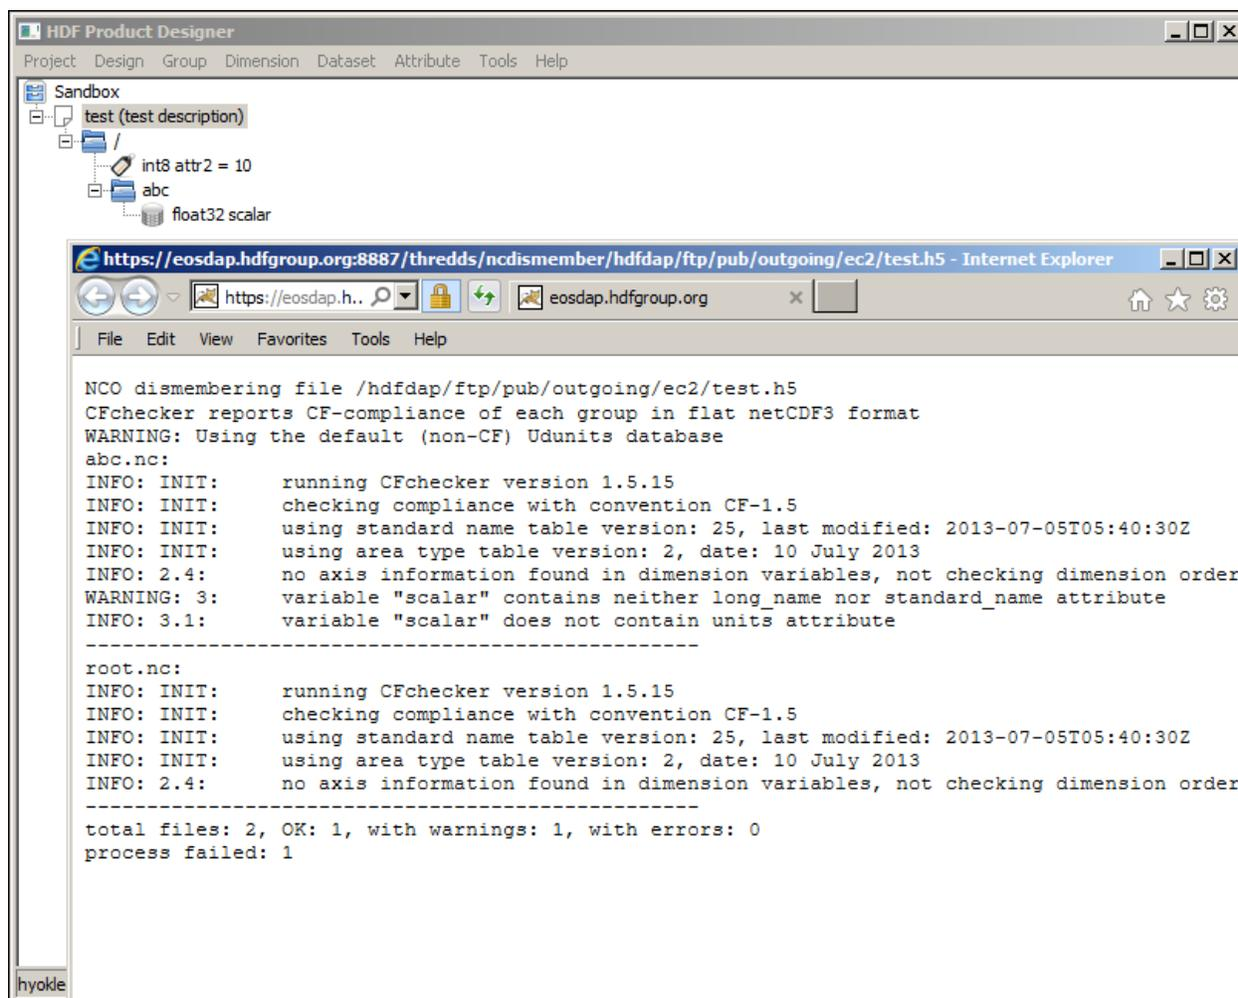

Fig. 5.26: CF compliance report from HPD Online. Note how the `test.h5` file is split into the `abc.nc` and `root.nc` files in the report.
- If no errors, a CF compliance report will be displayed in a web browser window (Fig. 5.26).